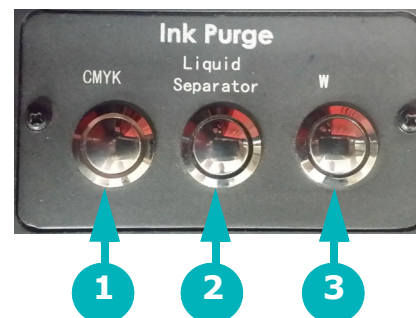

Figure 6-7: Manual Ink Purge Buttons
3. Use the manual Ink Purge buttons located in the carriage HOME compartment (See Figure 6-7). Then follow up with a head sweep performed from the EFI Pro 24f Control screen.